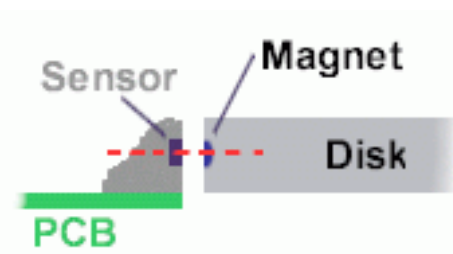

Figure 5 Ensure correct alignment of magnet disk and sensor.
- Take care that the magnets in the disk are approximately in the same height as the sensor, see figure 5.